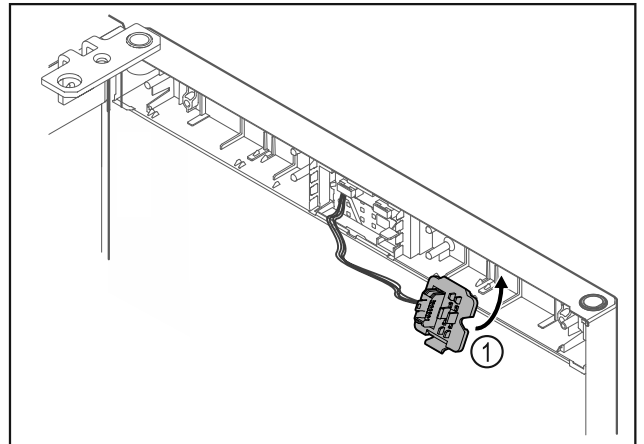

Fig. 24
- ▶ Snap in the plug holder Fig. 24 (1) on the opposite side.